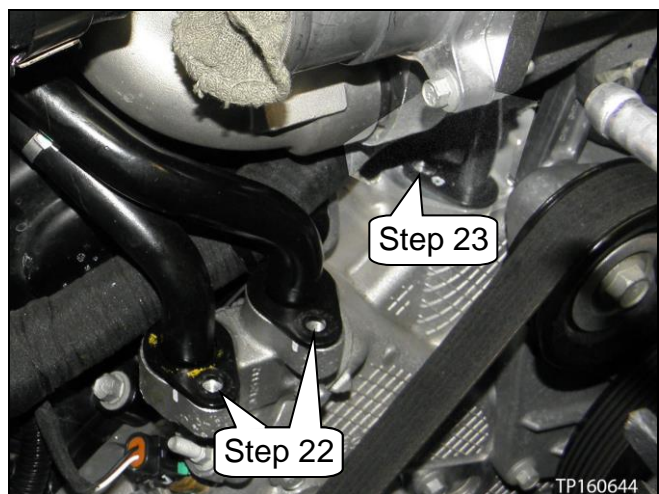

Figure 32
22. Remove both water transfer connection bolts (see Figure 32).
23. Remove the EGR bypass valve coolant tube bolt (see Figure 32).